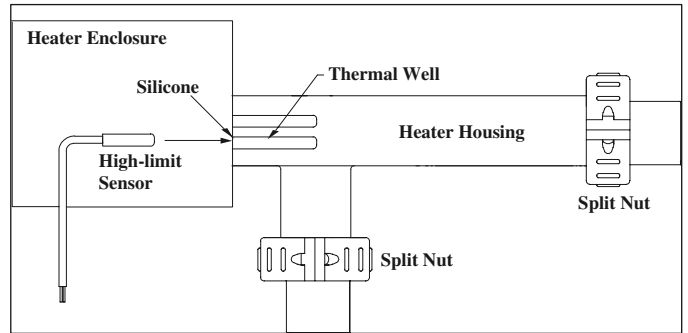

Figure 2: Thermal well inside heater housing
1. Remove the heater's enclosure to expose the thermal well. See figure 2.
3. Insert the high-limit sensor all the way into the thermal well until it reaches the end of the thermal well. See Figure 2.
4. Plug the high-limit sensor wire with any type of silicone to provide strain relief. See Figure 2.